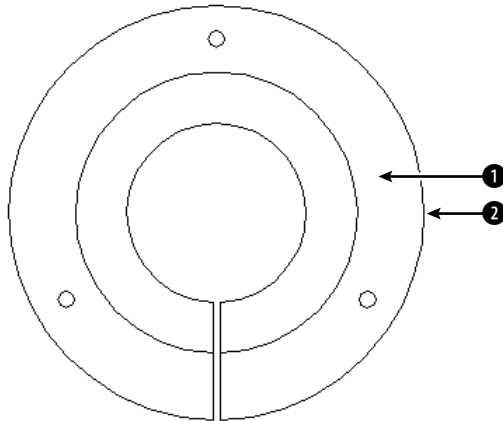

Figure 16-15: A bushing.
2. Save the file as `ab16-05.dwg` in your AutoCAD Bible folder. This is a bushing, shown in Figure 16-15.
5. At the `Select internal point:` prompt, choose ❶ in Figure 16-15.
7. To see the new region, start the MOVE command. At the `Select objects:` prompt, pick ②. Move the region to the right; the exact distance is not important. You see both the new region and the original objects.